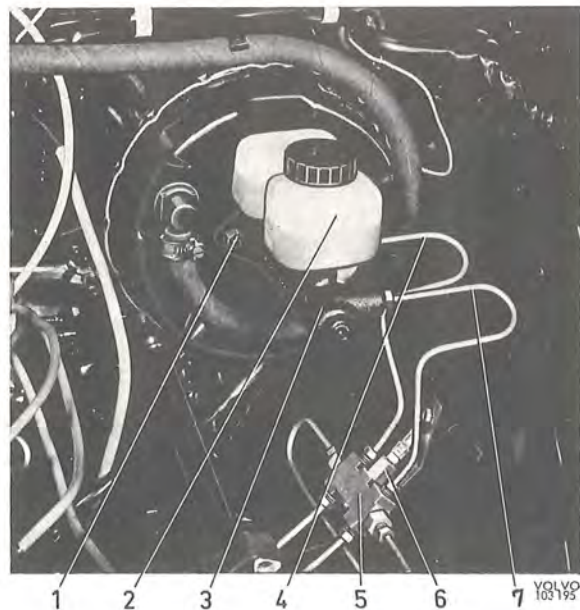

Fig. 5-54. Master cylinder fitted
2. Connect up the lines, see Fig. 5-54. Depress the pedal and tighten the nuts for the lines when fluid free from air forces its way out.